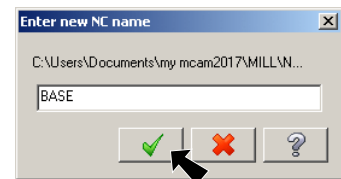

Fig. 40
Step 2. Click OK  in the NC name dialog, **Fig. 40**.